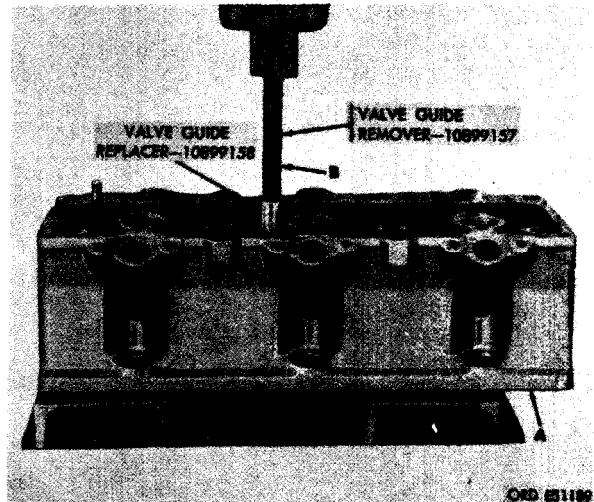

FIGURE 390. INSTALLING VALVE GUIDE IN CYLINDER HEAD USING VALVE GUIDE REMOVER - 10899157 AND VALVE REPLACER -10899158.
- (b) Figure 390. (A) Position cylinder head on press plates as shown with the cylinder head gasket surface on plates. Position head with valve guide bore directly below arbor press ram. (B) Start new valve guide into bore and press guide into cylinder head using valve guide replacer - 10899158 in combination with valve guide remover -10899157. Continue pressing guide until valve guide replacer - 10899158 contacts cylinder head.